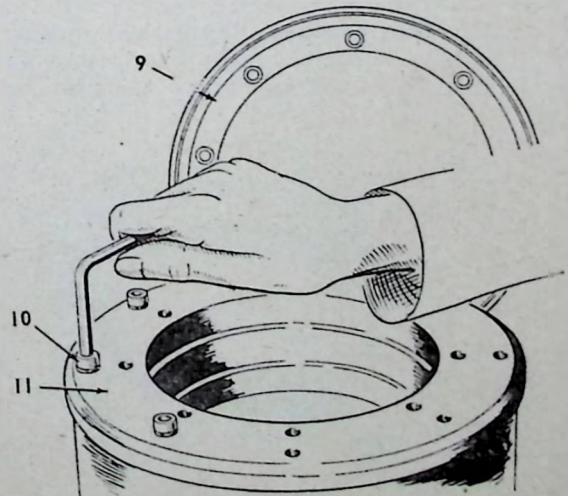

FIG. 74.—Removing front field piece bolts.
With chip shield (9, Fig. 74) removed, remove socket head screws $\frac{3}{16}$ " A/F (10) spring washers and front outer field piece (11).